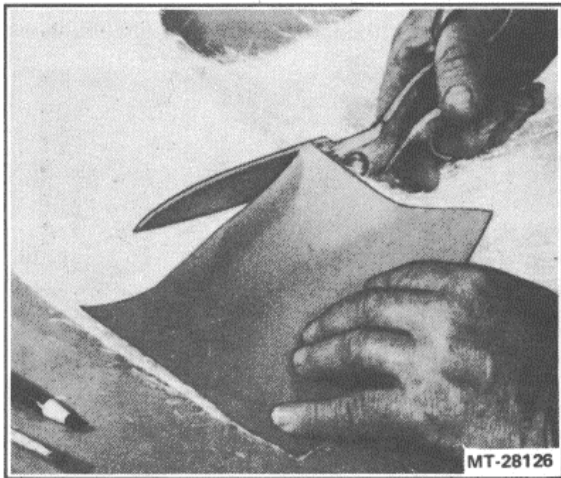

Figure 27. - Cutting Fiber Glass Mat
5. Then, using a cardboard template (Figure 27), cut the required pieces of mat large enough to extend 2 inches beyond the edges of the repair area.